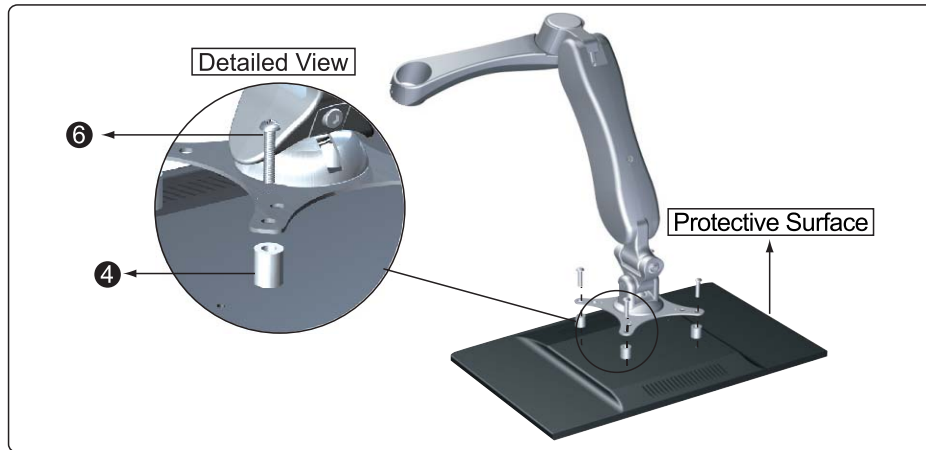

Figure 2-3
4. Select proper length of Screws (6) place the Spacers (4) on the back of display, follow by position and orient the mounting holes in the Tilter Mount Bracket so that the mounting holes on the Tilter Mount Bracket and Spacers (4) are aligned. (See Figure 2-3)